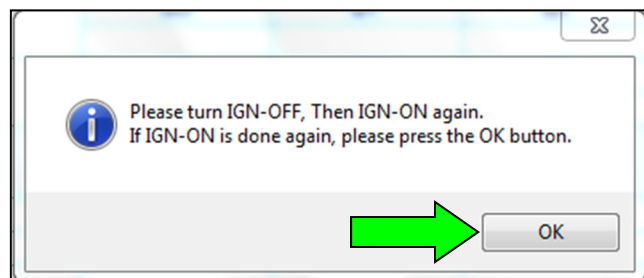

Figure 9
15. When the screen in Figure 9 displays, turn OFF the ignition, and then turn ON the ignition.
- The 75-Zero reset process will run for about another seven (7) seconds.